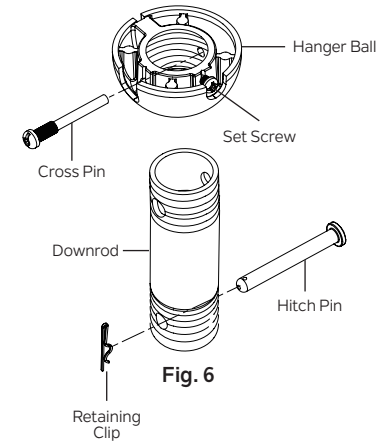

Fig. 6
Step 3. Remove the retaining clip and the hitch pin from the hanger ball/downrod assembly. Remove the hanger ball from the hanger ball/downrod assembly by loosening the set screw (do not remove) on the hanger ball, unscrewing and removing the cross pin, and unscrewing the hanger ball from the downrod. (Fig. 6)